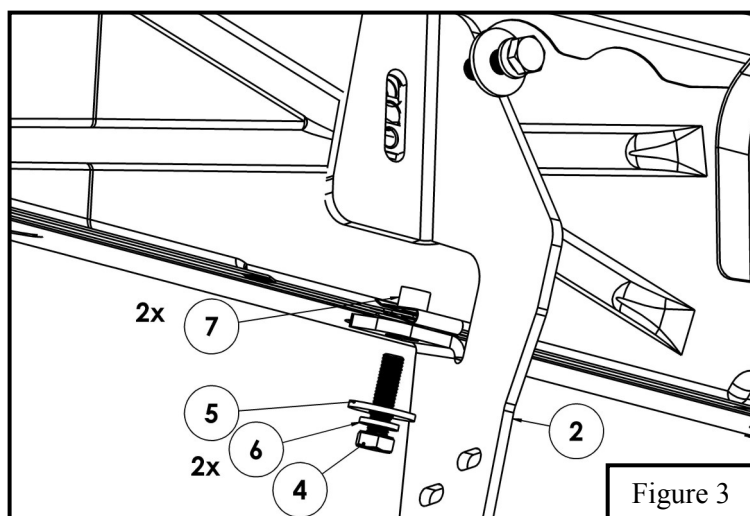

Figure 3
4. Insert (1) M8 U-Nut Clip (Item 7) into the hole where the rubber plug was removed. Clip (1) M8 U-Nut Clip onto pinch weld if no factory welded nut is present. Locate (1) Mounting Bracket A (Item 2) and loosely secure it to the rocker panel using the provided hardware: (2) M8 hex head bolt, (2) M8 flat washer, and (2) M8 lock washer. See **Figure 3**.